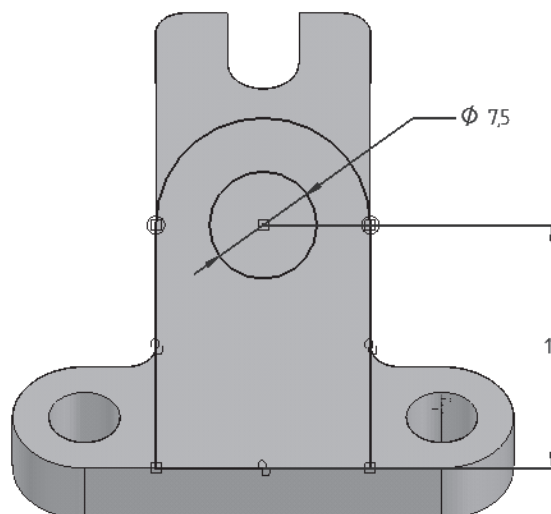

Figure 4-52 Profile for the second feature
- Define a new reference plane at an angle of 45-degree to the right edge of the base feature and use it to draw the profile for the second feature, refer to Figure 4-52.
9. Trim and extend the projected entities using the sketching tools and then draw a tangent arc to complete the profile of the base feature, refer to Figure 4-52.
10. Add a circle to the profile and then add the required dimensions to the profile, as shown in Figure 4-52.